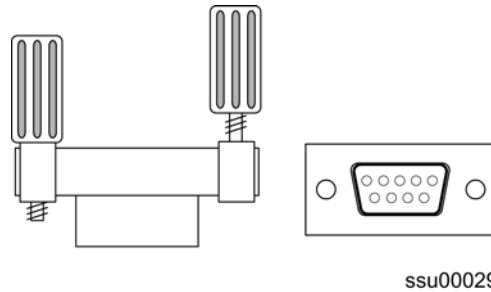

Figure 2-10. SSU Backup Clock Terminator (J9) Side and Front View
2. Install an SDU Backup Clock terminator (551021-0040, shown in Figure 2-10) on connector J9.